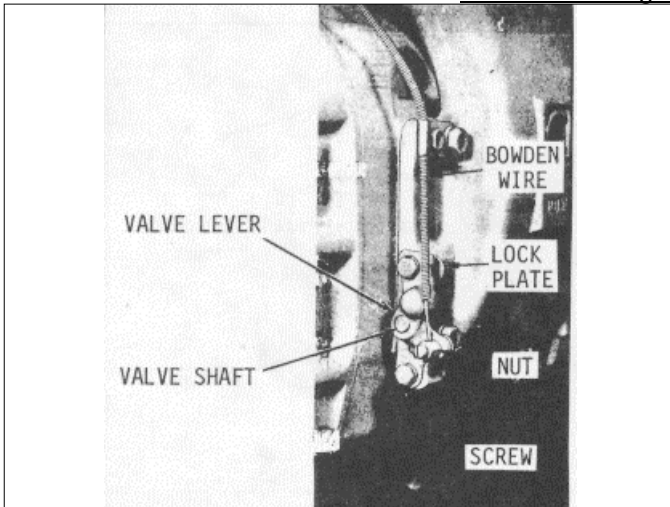

Fig. 2
- (1) Place a felt seal (137) in the counterbore at each end of the housing.
- (2) Determine the correct end of the inlet housing to attach the lock plate (139). Refer to Fig. 2 and determine the proper position of the lock plate for either manual.